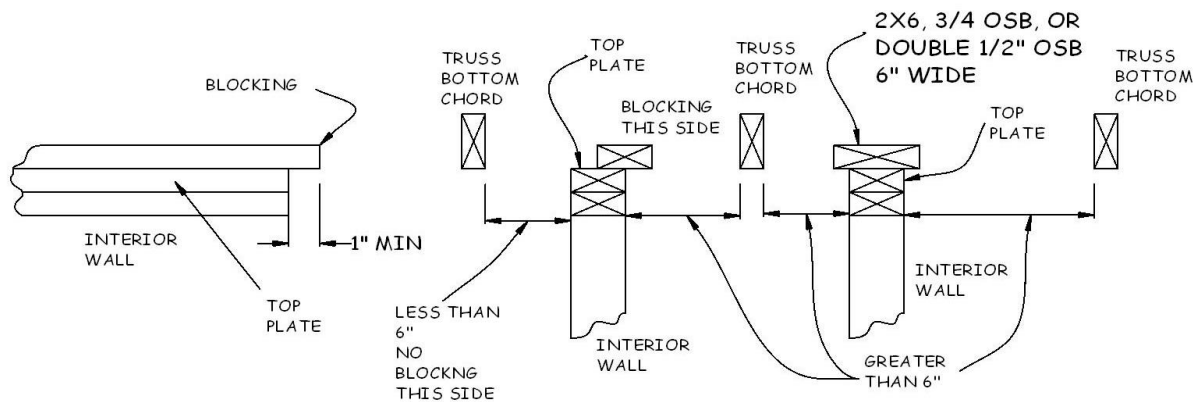

Figure 10-3. Blocking For Ceiling Rock.
2. Inspect the tops of all walls for areas where blocking may be needed for ceiling rock (see Figure 10-3). For interior walls that are greater than 6" from a truss, make sure that blocking extends at least 1" beyond both ends and sides of any interior wall top plates. Blocking should be continuous at the top of each wall where required.